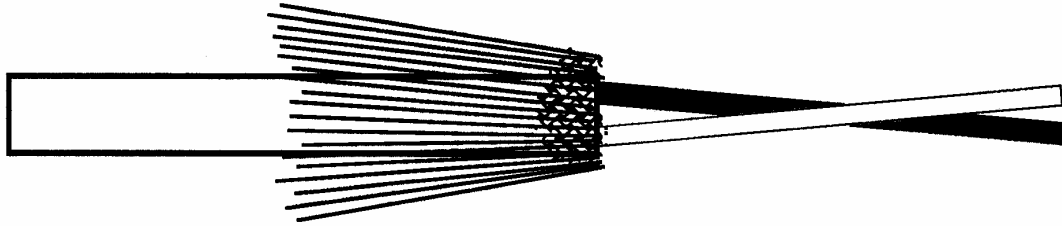

Figure 5-6. Outer Braid Preparation: Twinaxial Cable without Inner Braid
- See Figure 5-6 for cable without inner braid